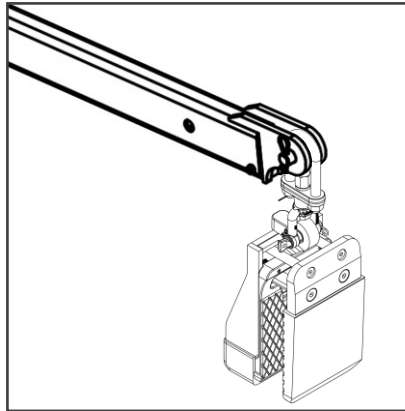

Figure 1.1
**Step 1:** Hook the lifter to a forklift boom (Figure 1.1).